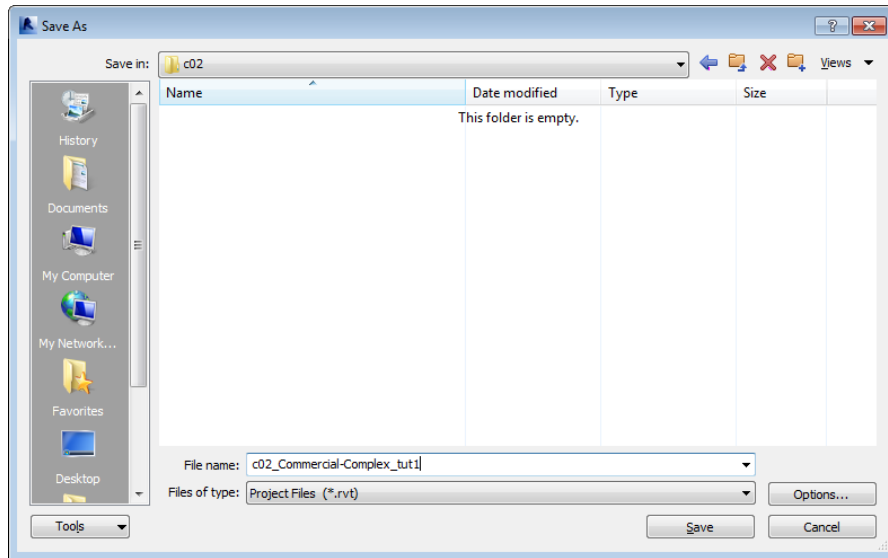

Figure 2-30 The *Save As* dialog box
3. Open the *revit_2014_structural_project* folder and then create a sub-folder with the name *c02*. Next, open the created folder and save the file with the name *c02_Commercial-Complex_tut1.rvt*, refer to Figure 2-30.